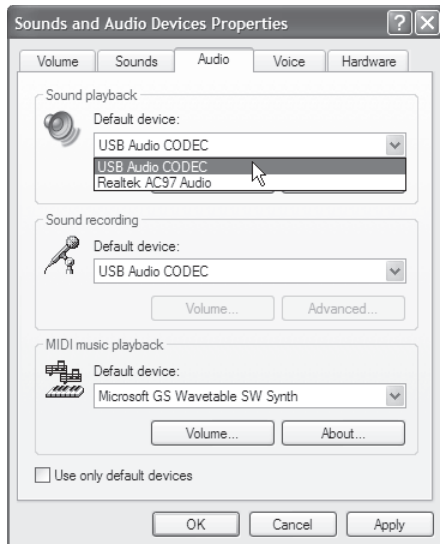

Figure 6
5. To use the L Series as your default input/output device (for system sounds and programs like Sound Recorder), ensure that it is set for playback and recording in the Audio tab (figure 6).